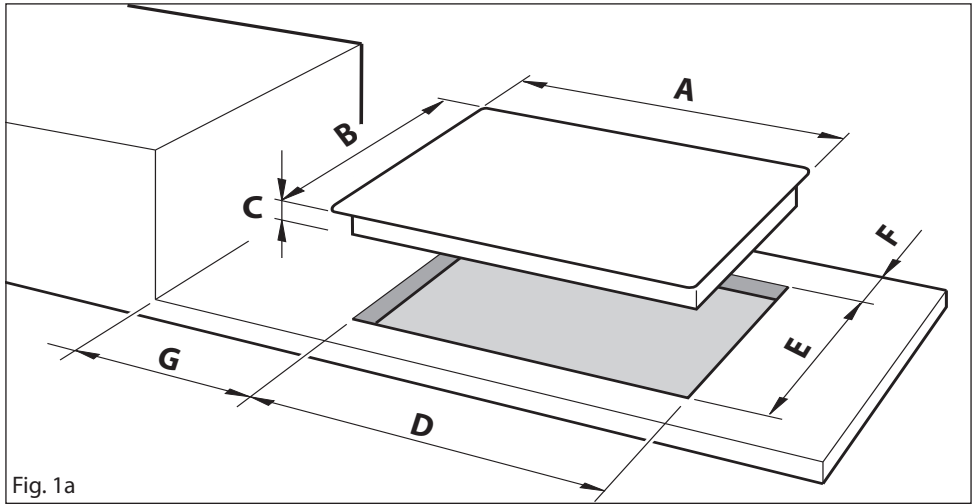

Fig. 1a
- The cooker top must be kept no less than 200 mm away from any side wall (from side edge of cutout - figs. 1a, 1b).
- The hob must be installed at least 60 mm from the wall (from rear edge of cutout - fig. 1a).